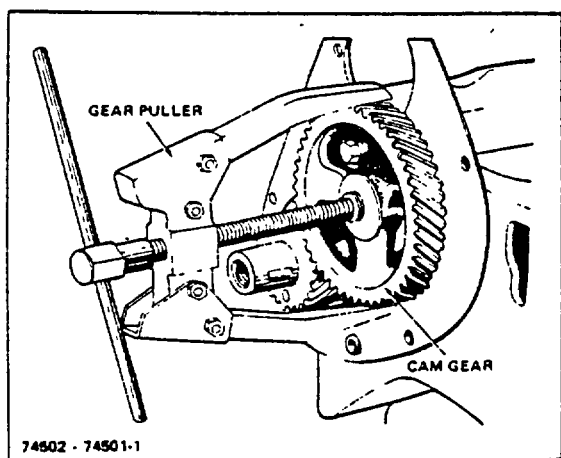

Figure 9-1. Removing Cam Gear with Puller (Typical)
2. Using a Duller, remove the cam and crank gears (Figure 9-1).